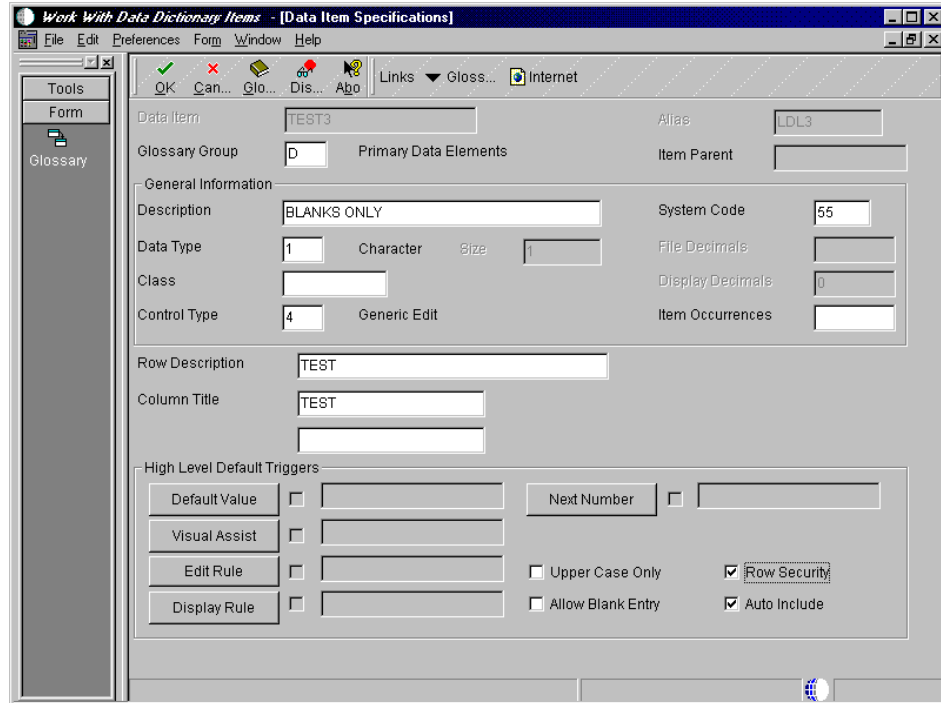

Figure 217. Data Item Specifications display
4. On the Data Item Specifications display, select the **Row Security** check box. Your display should appear as shown in Figure 217 on page 432.